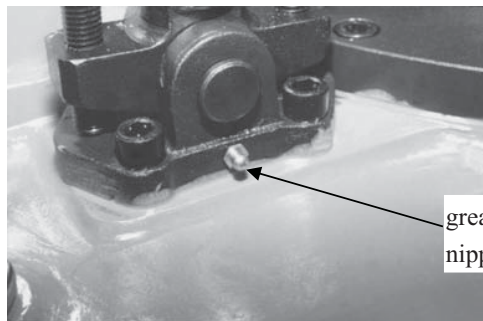
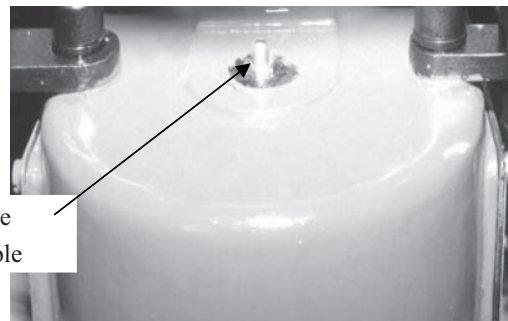

Fig22
Fig23
- ☐ Fill 25ml of lubricating grease to each grease nipple of the master axle, idle gear-axle, and duplex gear axle. (Grease nipple positions are shown in Fig.22 and Fig .23)